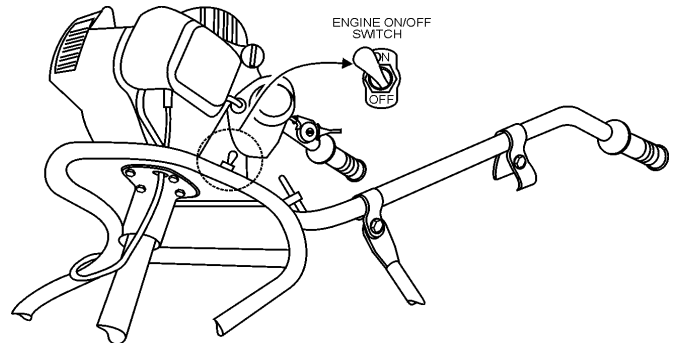

Figure 12. Engine ON/OFF Switch
3. Set the engine ON/OFF switch (Figure 12) to the **ON** position.
3. Set the engine ON/OFF switch (Figure 12) to the **OFF** position.